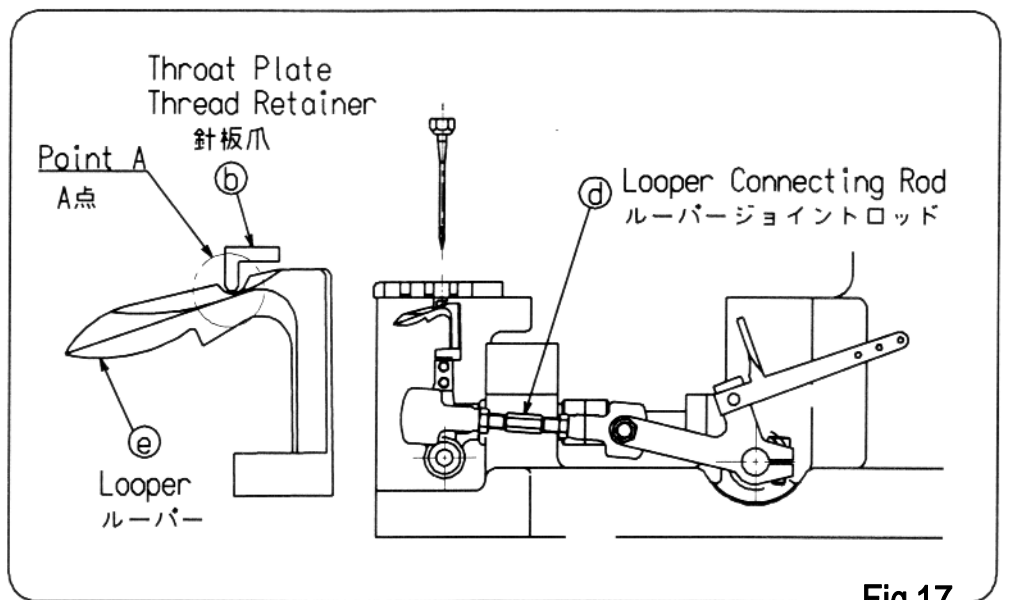

Fig.17
- c) Adjustment between Loper and Throat Plate Thread Retainer (Fig.17)
- c) ルーパーと針板爪の調整 (Fig.17)